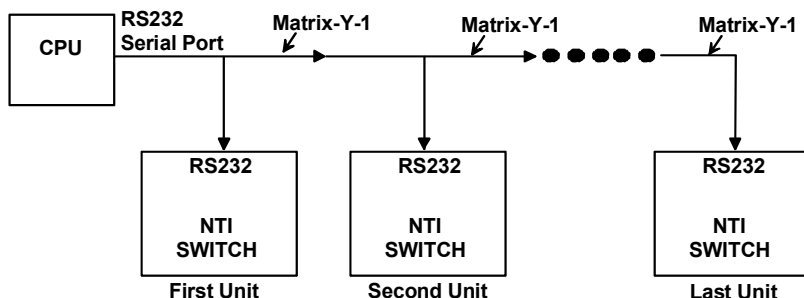
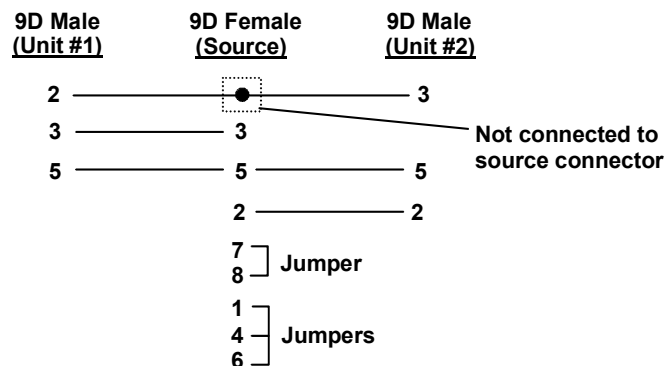

Figure 29- RS232 connection with Matrix-Y-1 cable
Figure 30- Pinout of Matrix-Y-1 cable
**Note:** In order to connect multiple UNIMUX units together a Matrix-Y-1 cable must be used. (See Fig. 29.) See Fig. 30 for the pinout of the Matrix-Y-1 cable.